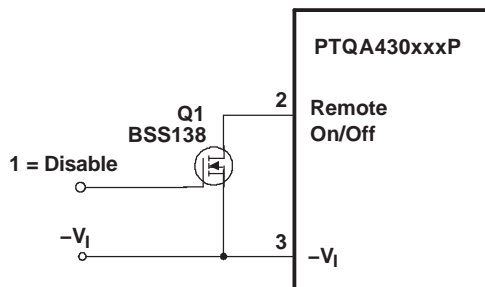
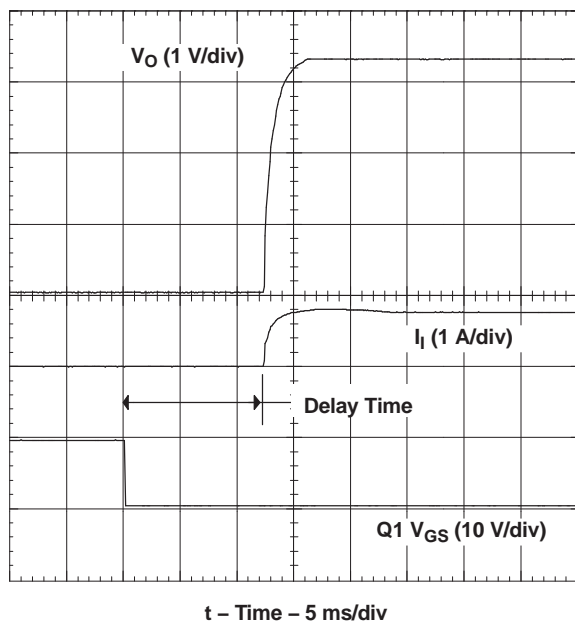

Figure 13. Recommended Control or Remote On/Off Input
Figure 14. Power Up
**Turn-On:** With a valid input source voltage applied, the converter produces a regulated output voltage within 75 ms of the output being enabled. Figure 14 shows the output response of the PTQA430033P following the removal of the logic-low signal from the *Remote On/Off* (pin 2); see Figure 13. This corresponds to the drop in Q1  $V_{GS}$  in Figure 14. Although the rise-time of the output voltage is short (<10 ms), the indicated delay time will vary depending upon the input voltage and the module's internal timing. The waveforms were measured with 48 VDC input voltage, and a 10-A resistive load.